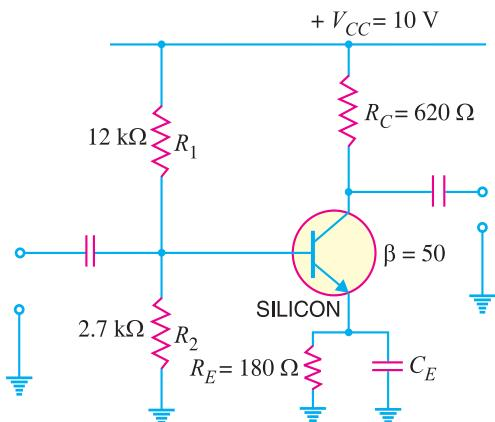

Fig. 9.39
**Example 9.31.** Determine whether or not the circuit shown in Fig. 9.39 is midpoint biased.